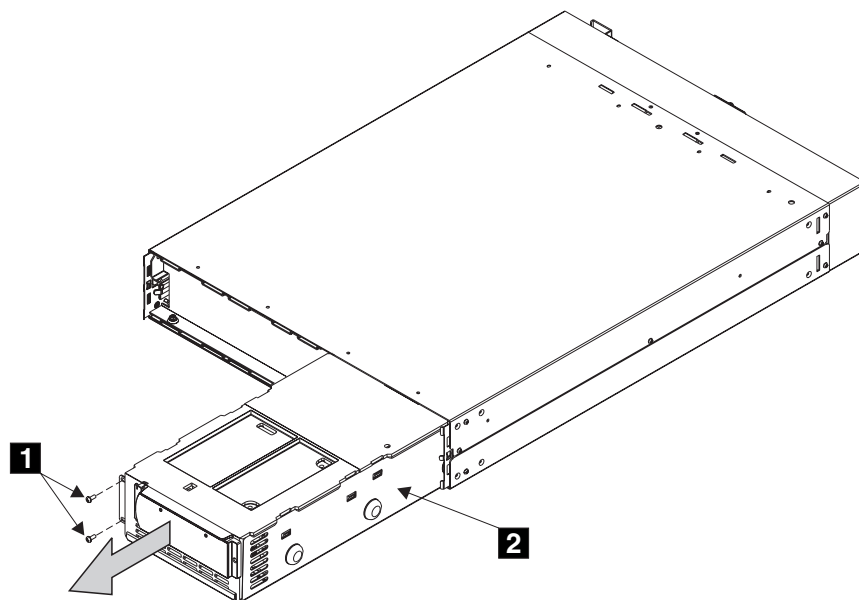

Figure 260. Removing the 2145 UPS electronics assembly
- a. Remove the two screws **1** (see Figure 260).